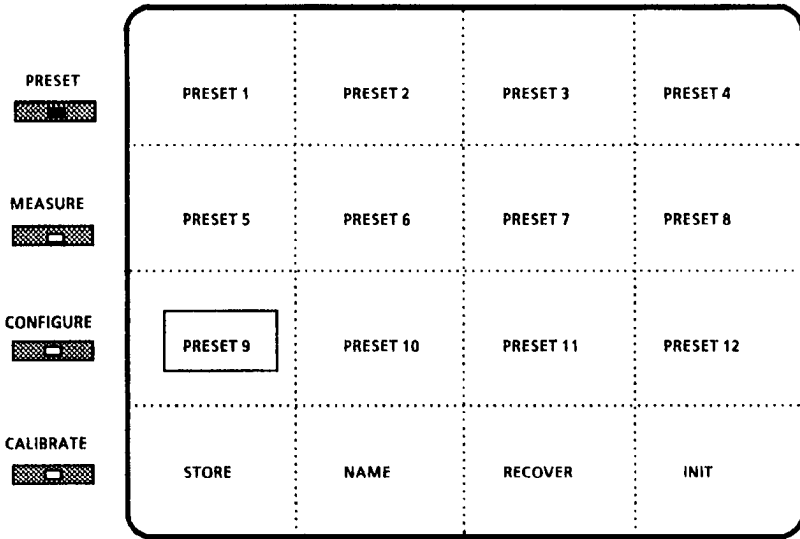

Figure 3–18: Preset Menu Screen
Many selections are made by touching the desired word on the CRT screen, as shown in Figure 3–15. This is indicated by the use of the word ‘touch’ (as opposed to ‘push’ for front-panel switches).
The Preset, Measure, Configure, and Calibrate menus are enabled by four front-panel menu buttons, shown in Figure 3–15.
Both CRTs are equipped with touch screens. Four vertical and four horizontal divisions create 16 quadrants, shown in Figure 3–16.
Once password is enabled, it restricts access to the Preset and Calibrate menus, and the Password menu, shown in Figure 3–17, is displayed.
**Recall Preset Settings.** Push PRESET button to enter Preset menu, shown in Figure 3–18.
2. Exit by changing any right-side front-panel control, and the instrument continues to operate at the selected preset settings (allowing modifications by the operator). When the preset has been exited in this manner, the word <RECOVER> will be displayed at the bottom of the menu screen the next time the Preset menu is selected, as shown in Figure 3–18. Touch <RECOVER> to return to previous instrument settings.